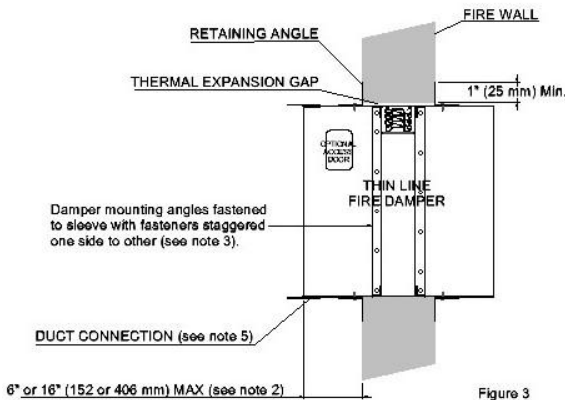

Figure 3
- A. Dampers Assemblies Using 2 Sided Angles Method** (See Note 4) shall be a minimum of 1/8" (3mm) per linear foot (305mm) of height and width of sleeved assembly with a minimum of 1/4" (6mm). The maximum opening size shall be 2" (51) larger in either dimension than the allowable minimum size.
- 3. ATTACHING FIRE DAMPERS TO SLEEVES:** Damper shall be secured in the sleeve with minimum 11/16" x 11/16" x 18 gauge (18 x 18 x 1.31 mm) steel angles inside the sleeve all around damper frame perimeter and on both sides of damper frame using #10 sheet metal screws, ¼" (6mm) nut and bolts, 1/2" (13mm) tack welds, or 3/16" (5mm) steel rivets, spaced a maximum of 6" (152 mm) on centers and a maximum of 2" (51mm) from the corners and staggered one side of frame to other (see Figures 3 through 6). Angles are to be fastened to sleeve only and shall sandwich damper tightly. A minimum of 4 attachments (2 on each angle) per side (16 per damper) are required. Fasteners are not to be located inside the blade track.